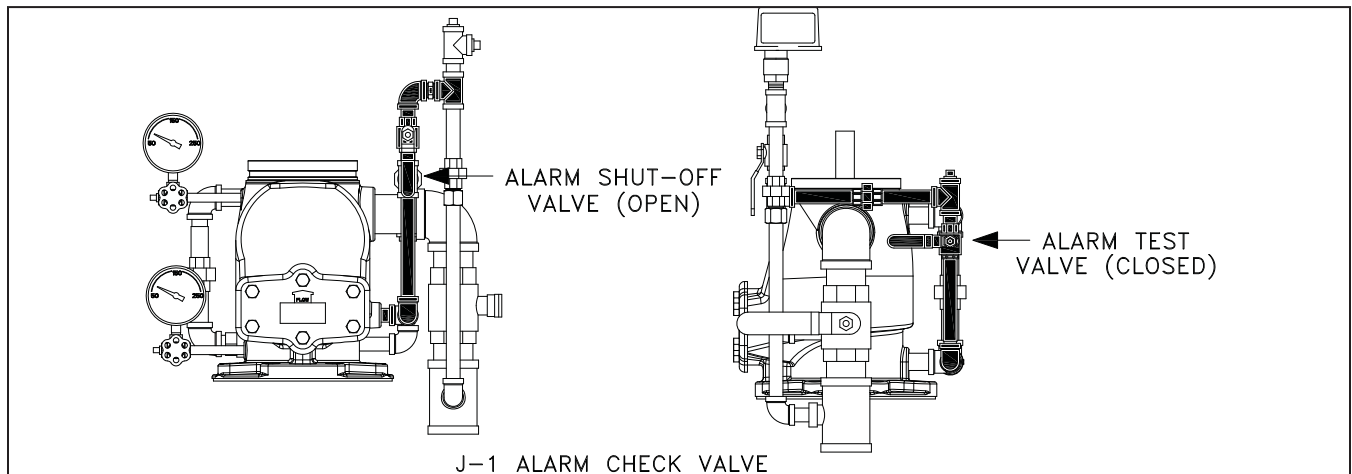

Figure 31
2. The alarm shut-off valve in the alarm check valve trim is open (Figure 31), and the alarm test valve is closed (for systems using the Model J-1 Alarm Check Valve with a mechanical alarm).